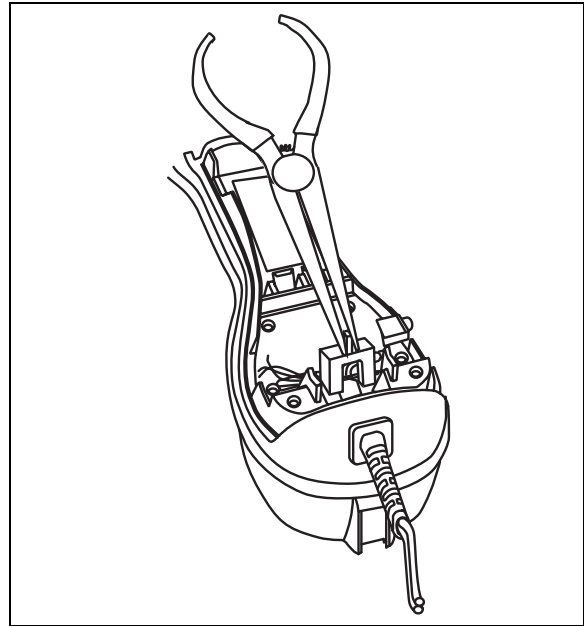

Figure 7. Removal/Installation of Plastic Clip
- 5 Using needle nose pliers, remove the plastic clip (Figure 7) that holds the line cord strain relief in place.
- 4 Insert the plastic clip over the line cord strain relief at the base of the test set housing (Figure 7) and press tightly into place. Inspect all work to ensure no pinched wires or areas where weather resistance and safe operation is affected. Reinstall the battery. Observe the proper polarity.